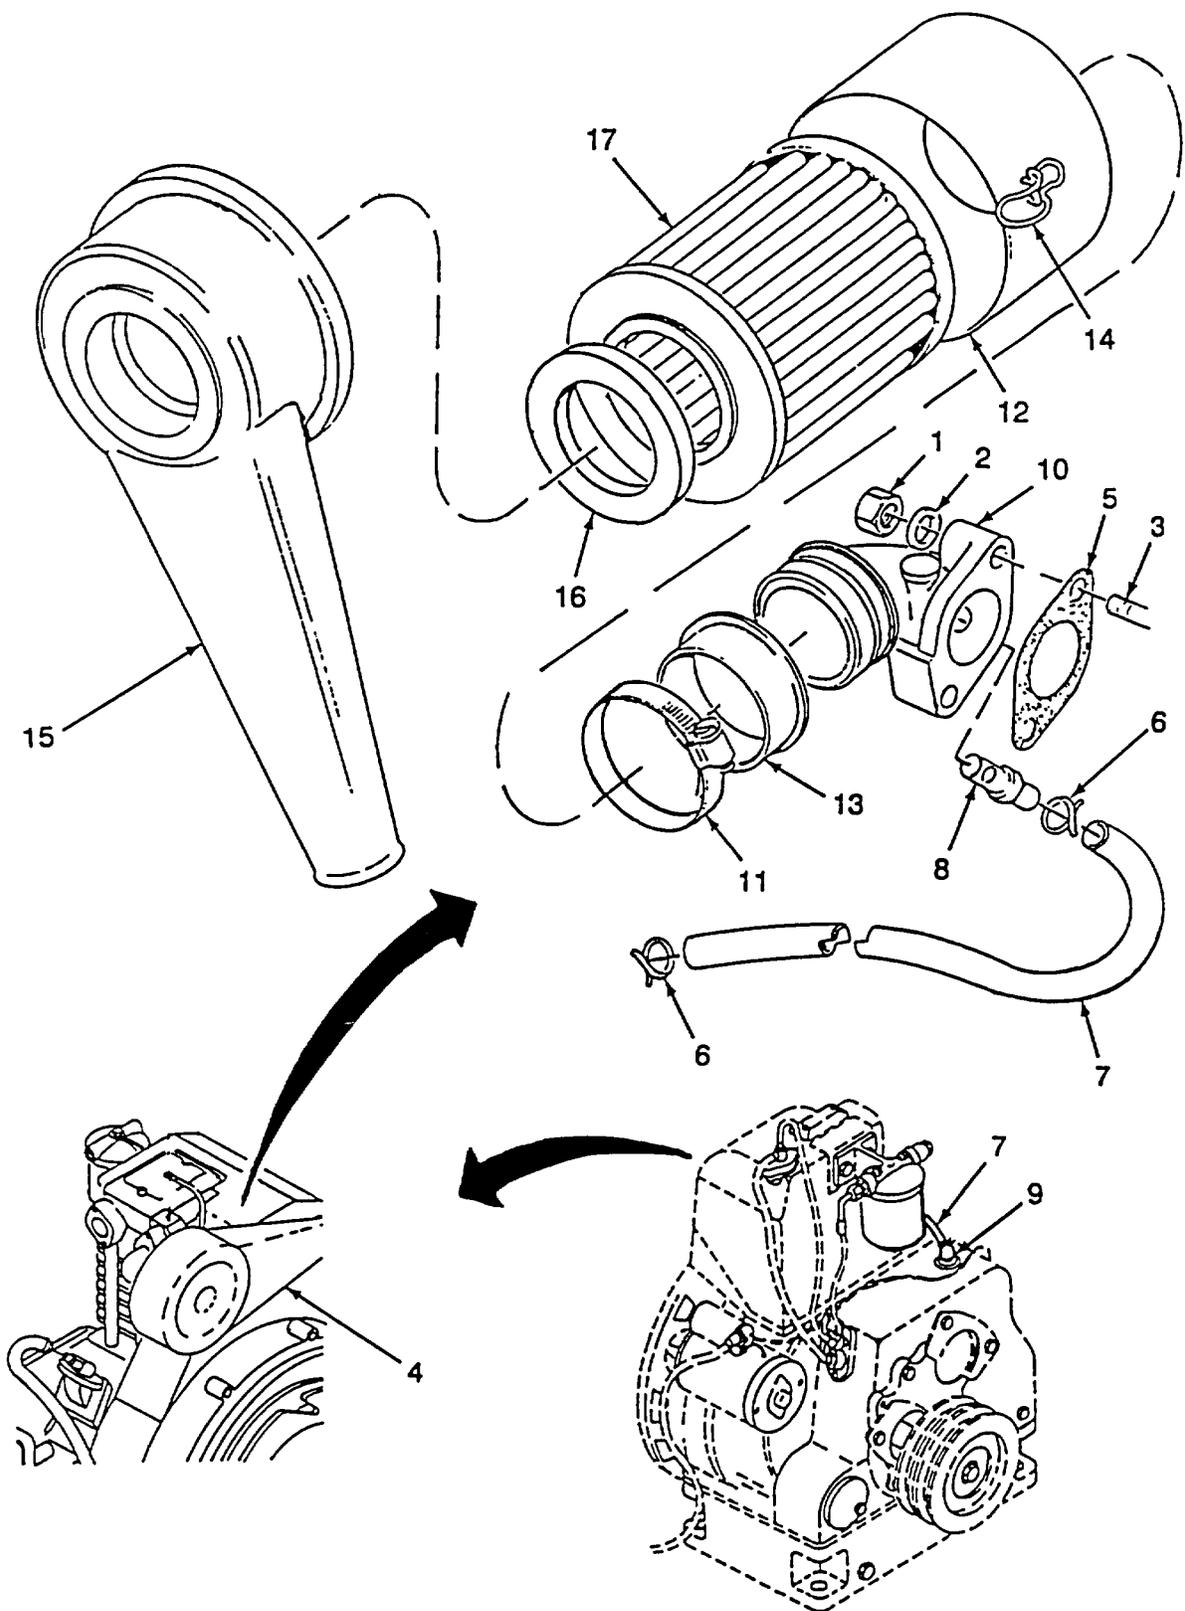

Figure 4-31. Air Cleaner Assembly
## (1) Removal. (Refer to Figure4-31).
- (a) Remove hose from air cleaner (para 4-39.a.). Remove breather tube (7) from valve (9)
- (b) Remove two nuts (1) and two washers (2) from studs (3)
- (c) Remove air cleaner assembly (4) and gasket (5) from cylinder head.